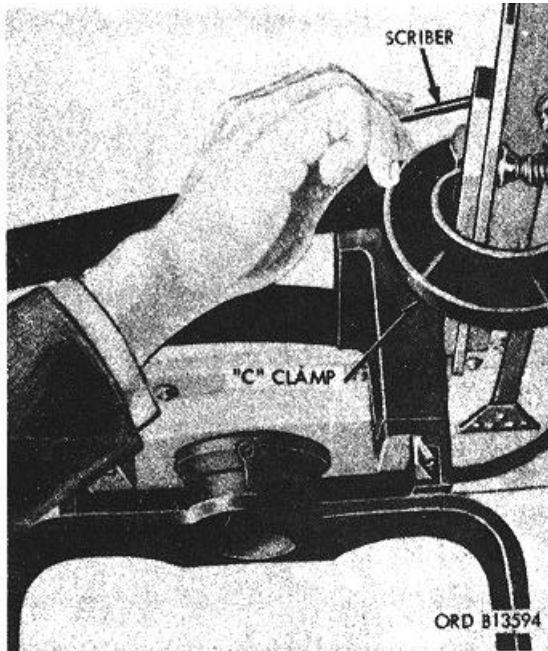

Figure 31.2. Use of "C" clamp and scriber-typical.
- (1) Fasten the support assembly (fig. 31.1) to the side supports with "C" clamps (fig. 31.2).
- (2) Make sure the forward edges of the support assembly and the inboard side support mate and that the flat mating surfaces of the outboard side support and the support assembly fit flush.
- (1) Scribe the mounting holes of the support assembly onto the side supports (fig. 31.2).
- (2) Remove the support assembly and both side supports from the helicopter. Retain all of the mounting hardware.